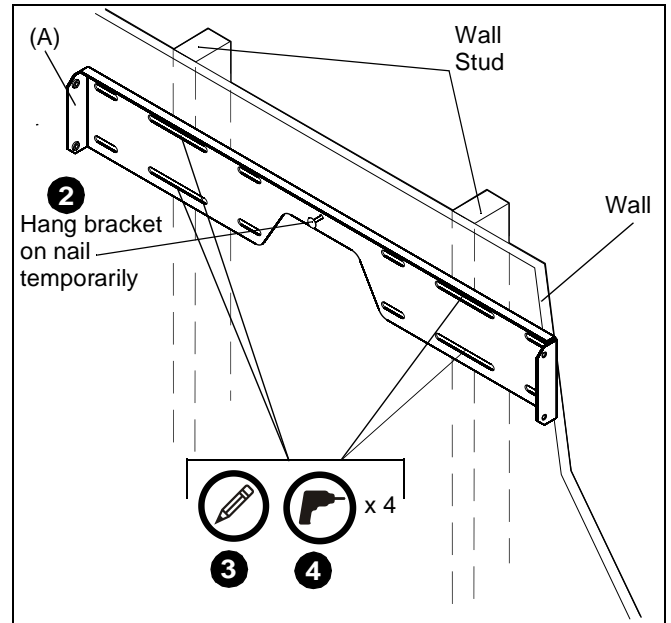

Figure 1
2. Using a nail through the center hole of the wall bracket, temporarily hang the wall bracket on the wall at the install location. (See Figure 1)
3. Mark the four mounting holes for pilot holes. (See Figure 1)
4. Drill four pilot holes in wall studs. (See Figure 1)
2. Using a nail through the center hole of the wall bracket (A), temporarily hang the wall bracket on the wall at the install location. (See Figure 1)
3. Align mounting holes in wall bracket (A) with studs.
4. Mark location of four mounting holes on wall. (See Figure 1)
5. Drill four pilot holes. (See Figure 1)